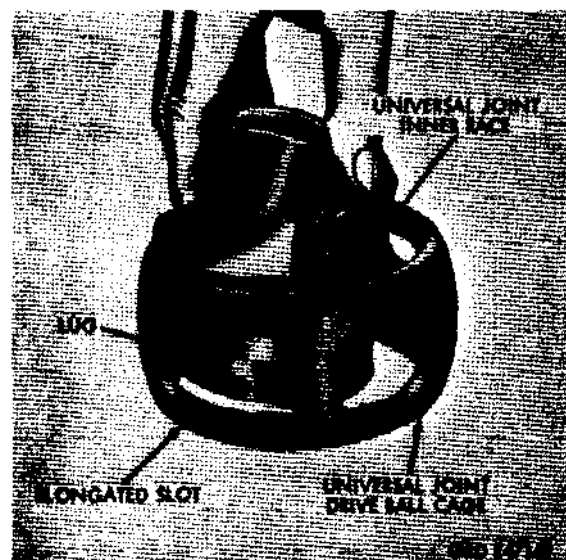

Figure 359. Separating inner ball race from ball cage
- (10) Separate ball race from ball cage. (fig. 359). To separate ball race from ball cage, turn race at right angle to cage, align tooth on race with elongated hole in cage and roll race from cage.